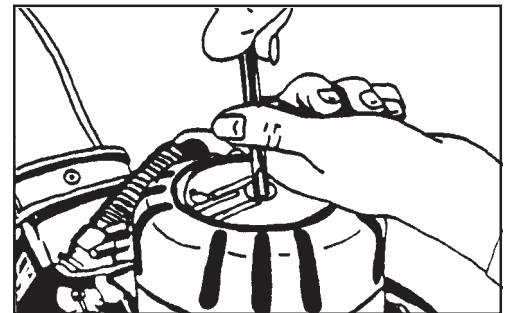

Figure 10
1. Remove the motor cover. See figure 10.